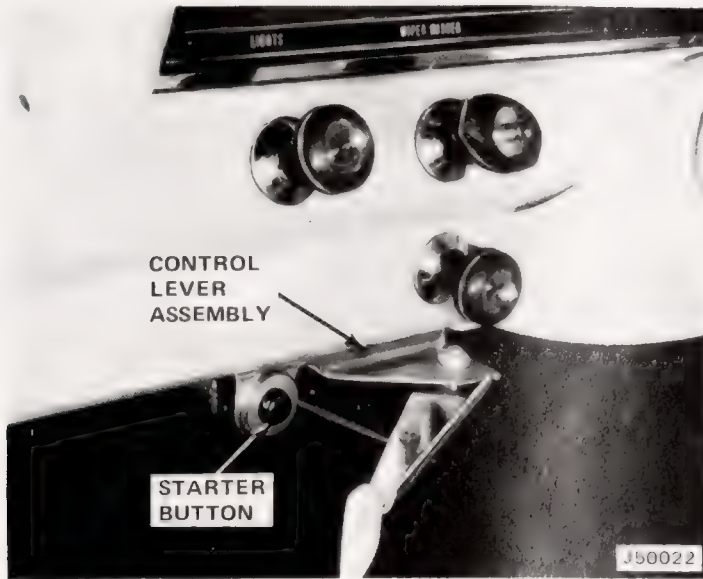
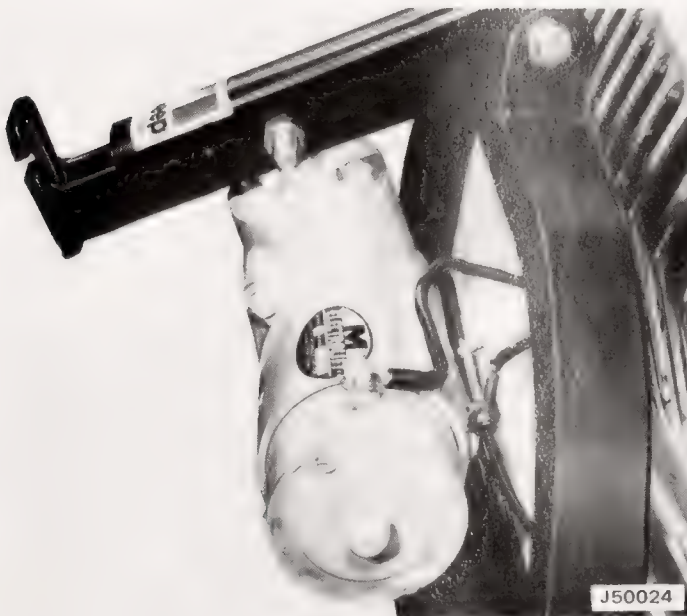

Fig. 1-31 Control Lever Assembly Installation
Fig. 1-32 Electrolift Model T-6 Installation
This power pack provides hydraulic plow lift, hold, and lower capabilities. Control of this unit is by cable from the instrument panel to a release valve lever on the electro-hydraulic ram mechanism. A pushbutton switch, mounted on the instrument panel control lever, energizes the pilot solenoid to power the electric motor (fig. 1-31).
- (1) Disconnect negative battery cable.
- (2) Install electrolift unit in lift frame, motor toward left side of vehicle. Tighten nuts to 30 to 40 foot-pounds torque (fig. 1-32).
- (3) Drill two 1/4-inch holes in control lever assembly mounting flange.
- (4) Route cable of control lever assembly through grommet in firewall to engine compartment.
- (5) Using control lever assembly mounting flange as template, position on bottom flange of instrument panel (left side) and drill two 3/16-inch holes. Attach control lever assembly with self-tapping screws (fig. 1-31).
(20) Connect battery cable to BAT side of solenoid and route to battery terminal.
(21) Connect ground cable to an existing hole in vehicle frame. If no hole is available, drill a 5/16-inch hole and secure with bolt, lockwasher, and locknut.
(22) Connect negative battery cable and test installation (fig. 1-32).